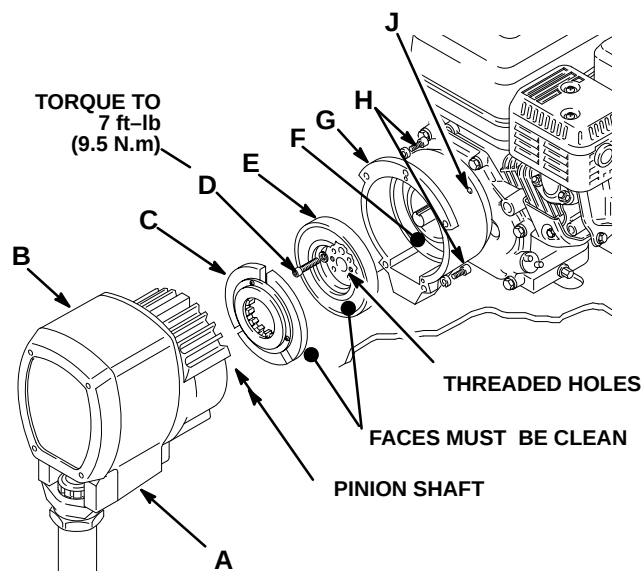

Fig 1
1. Be sure the faces of the rotor (E) and the armature (C) are free of all oil and contaminants. Install the rotor and capscrews (D). Torque the capscrews to 7 ft-lb (9.5 N.m). See Fig 1.
2. Pull the engine recoil rope to assure the engine turns freely, and there is no friction between the outside of the rotor (E) and the field (F). If there is friction, loosen the setscrews (J) and reposition the field as necessary. Tighten the setscrews oppositely and evenly to 25 in-lb (2.8 N.m). Also make sure there are no burrs on the outside edge of the rotor.
4. Assemble the drive/pinion assembly (B) to the clutch housing (G), using the capscrews (H). See Fig 1.